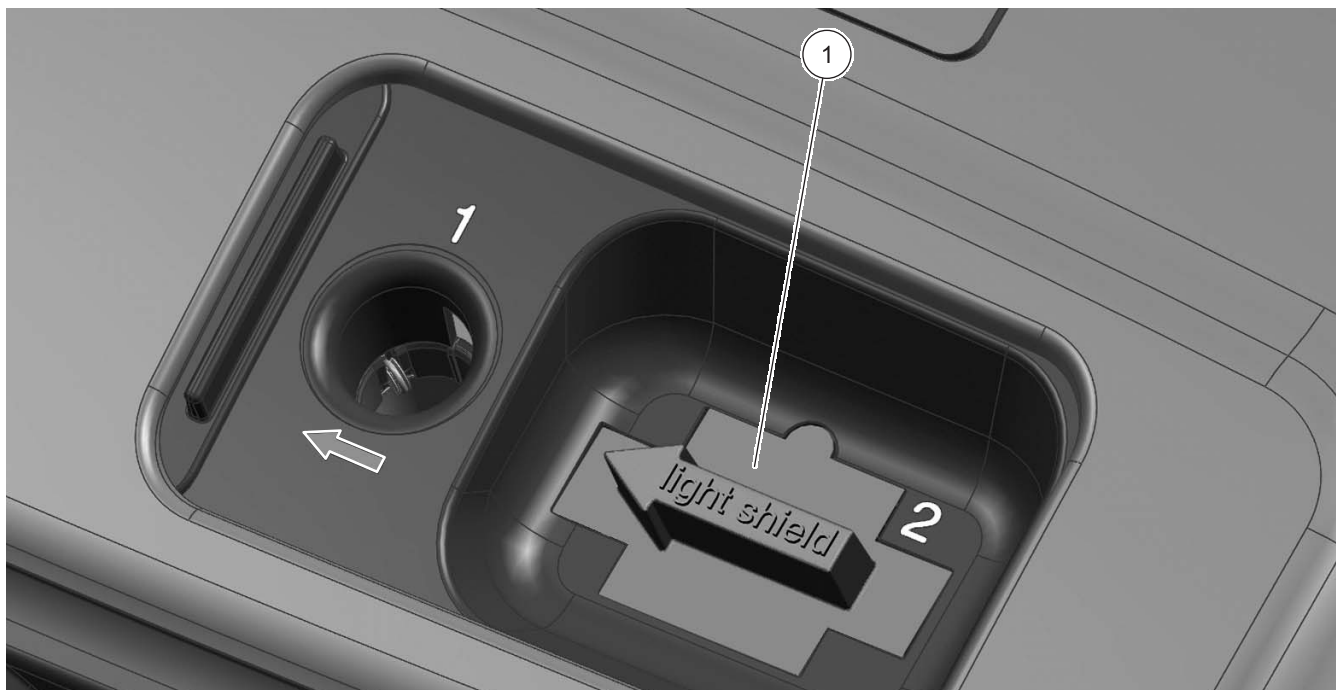

Figure 7 Light Shield in place
2. Insert the light shield so the arrow on the light shield points to the left and the orientation tab fits the groove in the compartment opening (Figure 7).